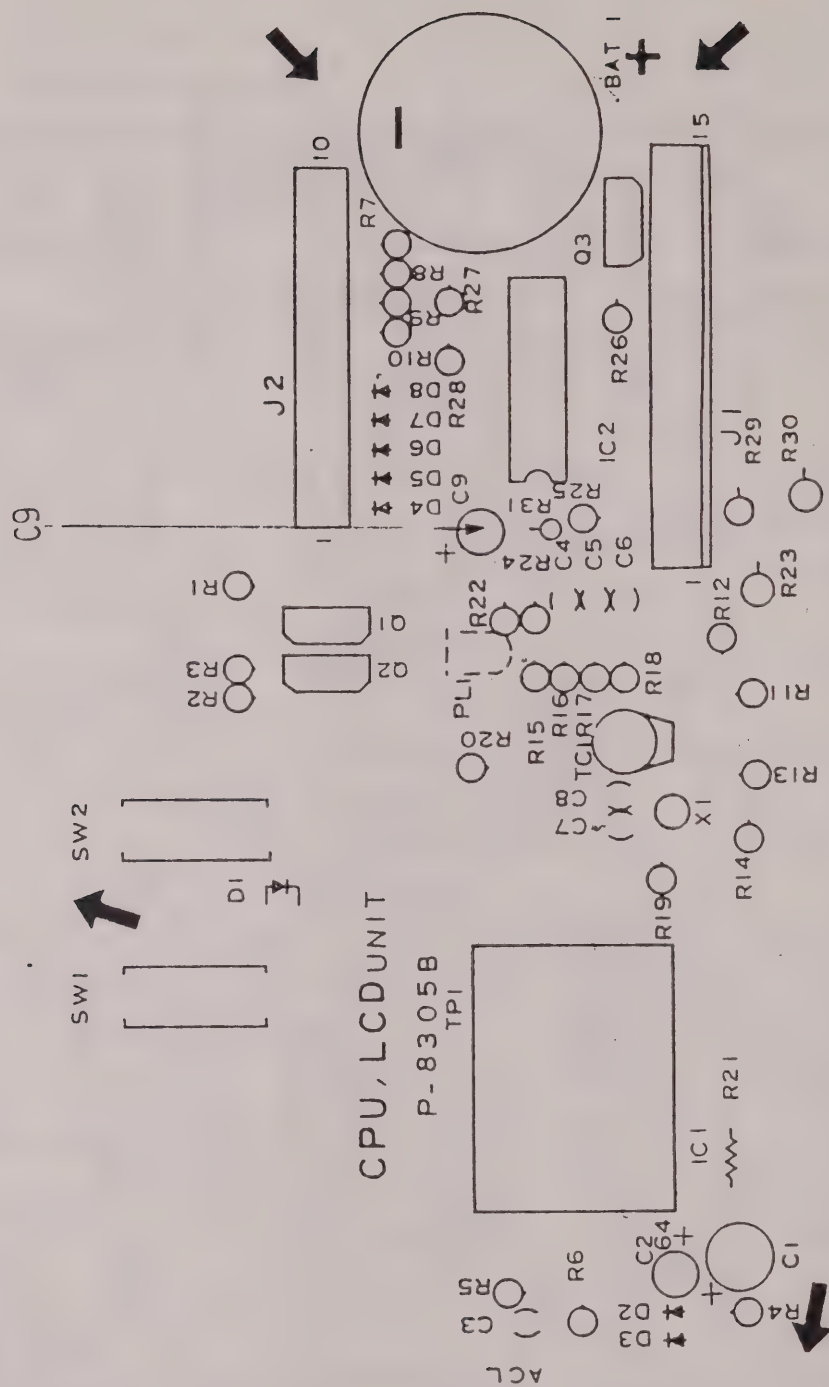

Figure 3-6. Location of Components on MX5000 CPU-LCD Board
c. Check leakage of C9.	Fig. 3-6